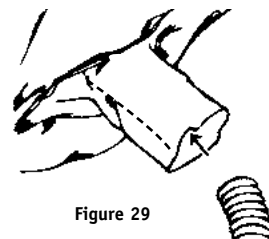

Figure 29
2. Insert the open end of the breathing tube approximately five inches into hood's air entry sleeve (see Figure 29). Do not insert breathing tube into hood air entry sleeve more than 6 inches as it may cause a flow restriction.